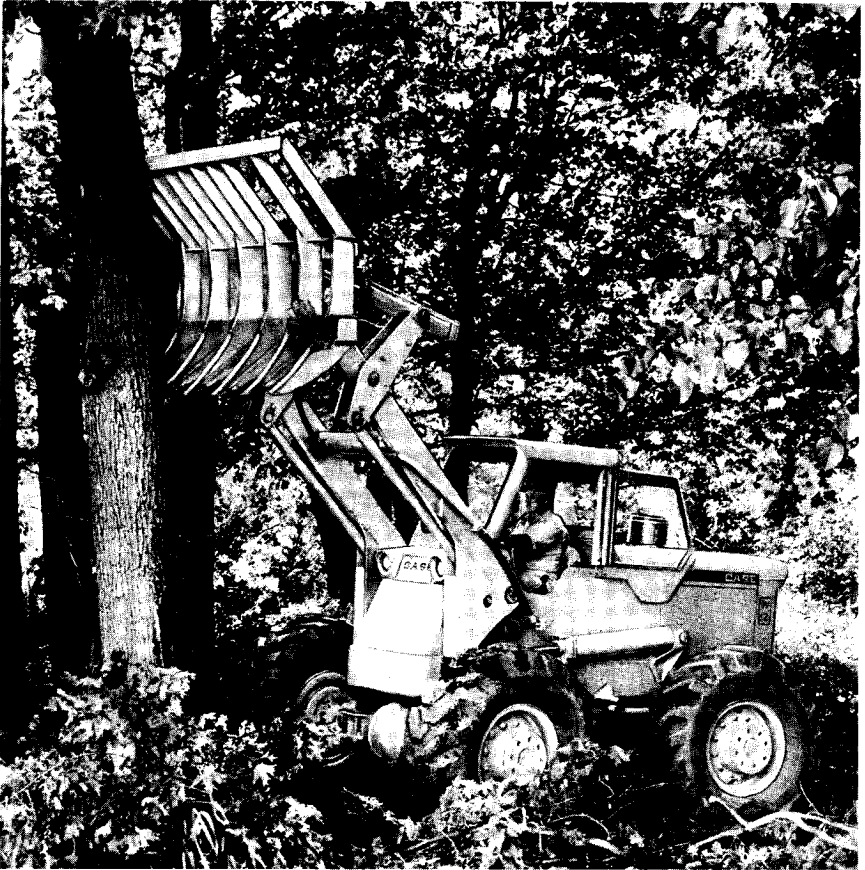

Figure 52
3. To push the tree over, raise the brush rake as high as possible on the trunk to obtain greater leverage. Tilt the brush rake, Figure 52, so the tines and the top cross angle are both in contact and centered on the trunk. Place the Loader in low range and push the tree over.